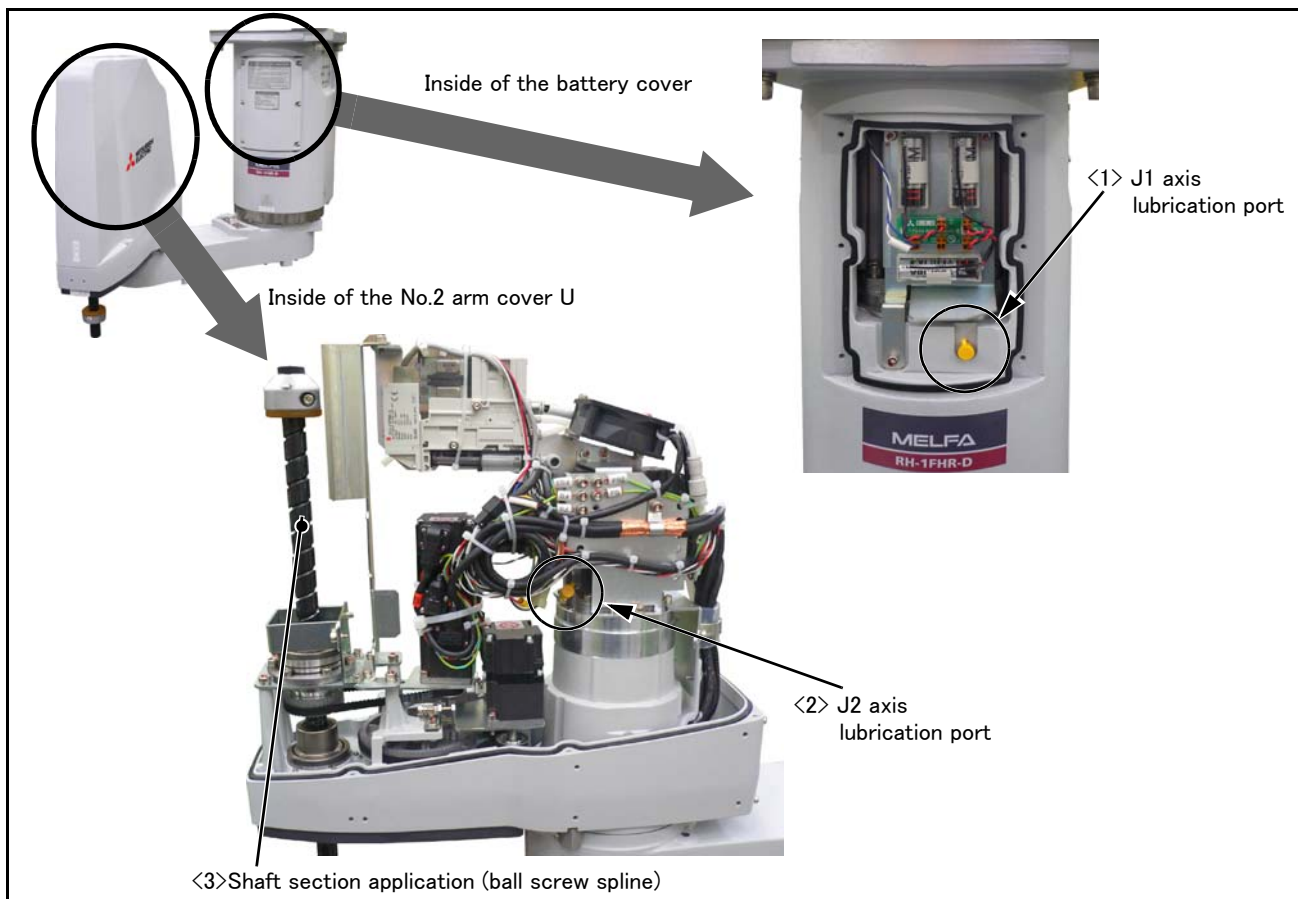

Fig.5-14 : Lubrication positions
The grease nipple position is shown in Fig. 5-14. The lubrication specifications for each place are shown in Table 5-4. Refer to the Page 68, "5.3.2 Installing/removing the cover" for the method of removing and installing the cover.
- The numbers in the Table 5-4 correspond to the supply positions in Fig. 5-14.
(2) Lubrication method to the J1, J2 axis